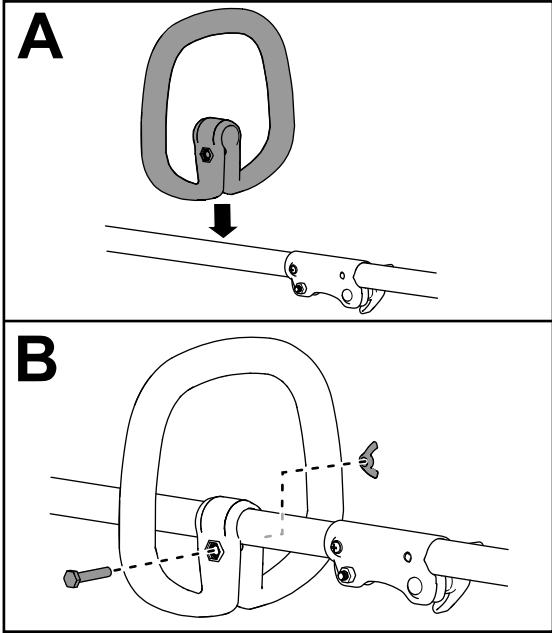

Figure 2
2. Line up the auxiliary handle with the upper trimmer shaft (B of Figure 2).
3. Secure the auxiliary handle to the upper trimmer shaft with the wing nut and bolt previously removed (B of Figure 2).